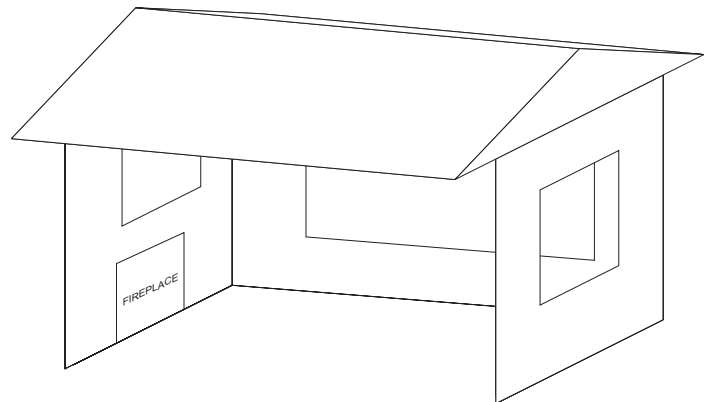

Figure 6
- Within a partial enclosure that includes an overhead cover and three side walls, as long as 30 percent or more of the horizontal periphery (perimeter of walls and open side) of the enclosure is permanently open. **See Figure 6.**